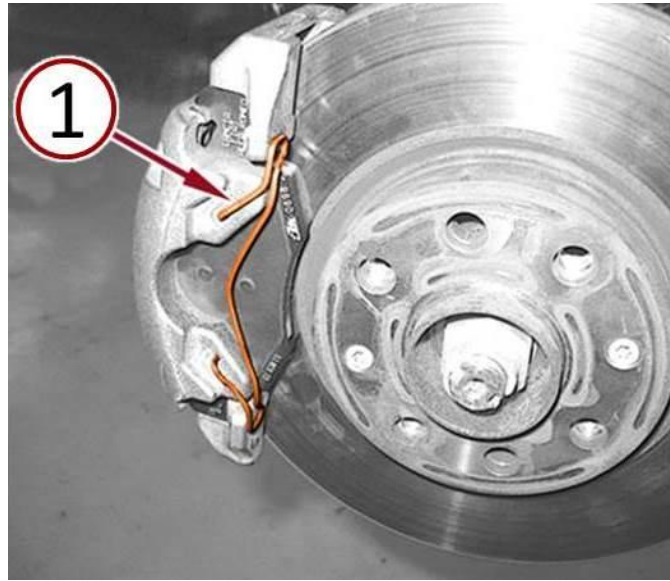

Fig. 11 Install Brake Caliper Retainer Spring
22. Install the NEW brake caliper retainer spring (1) in the front brake pad kit from the Parts Required section of this bulletin (Fig. 11).